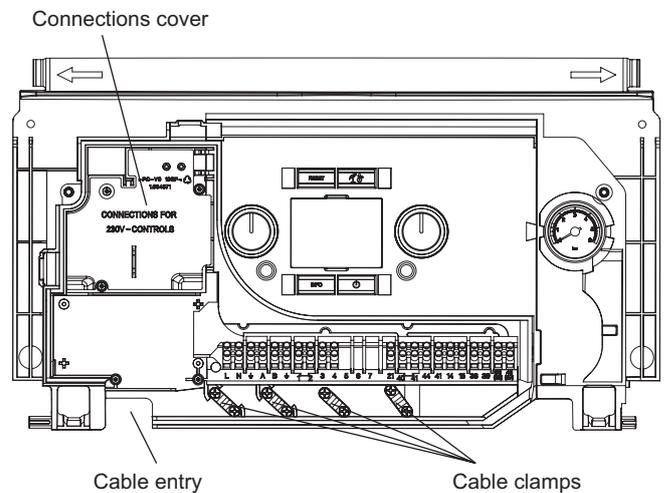

Fig. 4.15
Note: Do not remove the 230 V controls connection cover, see Fig. 4.15
1. Remove the screw securing the connections cover labelled 'connections for 230V controls' to expose the receiver/clock connections. See Fig. 4.15.